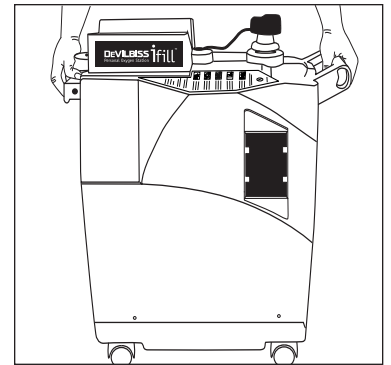

Figure 1
There are three (3) methods to safely transport the DeVilbiss iFill Personal Oxygen Station (Figure 1):